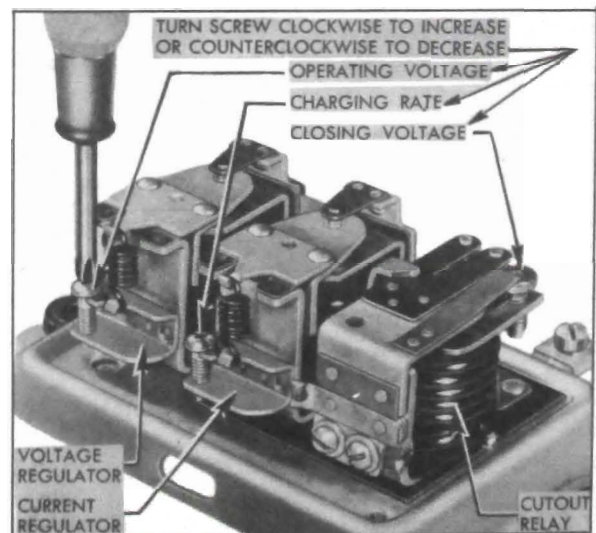

Figure 10-16—Generator Regulator Spring Tension Adjustments
11. If cutout relay operation is otherwise satisfactory but closing voltage is not between 11.8 and 13.6, remove regulator cover and adjust relay armature spring tension to obtain closing voltage of 12.8. Adjusting screw has a *left-hand thread*, therefore turning screw clockwise increases spring tension and closing voltage; turning screw counterclockwise decreases closing voltage. See figure 10-16. *After adjustment install cover and recheck closing voltage.*
adjust armature spring tension as required. Turn adjusting screw clockwise to increase operating voltage or charging rate; turn counterclockwise to decrease operating voltage or charging rate. See figure 10-16. *The final setting must always be made by turning screw clockwise to increase voltage or charging rate—never by turning screw counterclockwise.*
10. If relay closing voltage is not between 11.8 and 13.6, remove regulator cover and adjust relay armature spring tension to obtain closing voltage of 12.8. Adjusting screw has a *left-hand thread*, therefore turning screw clockwise increases spring tension and closing voltage; turning screw counterclockwise decreases closing voltage. See figure 10-16. *After adjustment, install cover and recheck closing voltage.*
19. If either the voltage or current regulator did not operate within specified limits, remove regulator cover and adjust armature spring tension as required. Turn adjusting screw clockwise to increase operating voltage or charging rate; turn counterclockwise to decrease operating voltage or charging rate. See figure 10-16. *The final setting must always be made by turning screw clockwise to increase voltage or charging rate—never by turning screw counterclockwise.*